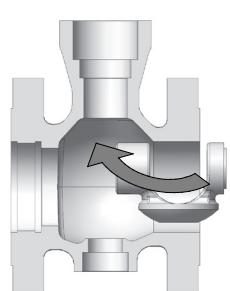

Figure 4b: Plug installation
- ⚠ NOTE:** The end post bearing (item 84) is pressed into the plug.
- 13.15 Insert the plug in the body as shown in Figure 4b.